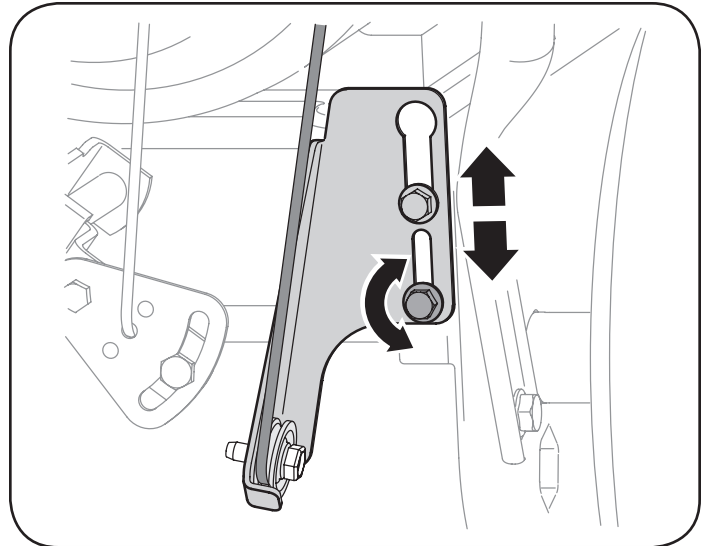

Figure 28
- b. Loosen the lower hex bolt on the drive cable bracket. See Figure 28.